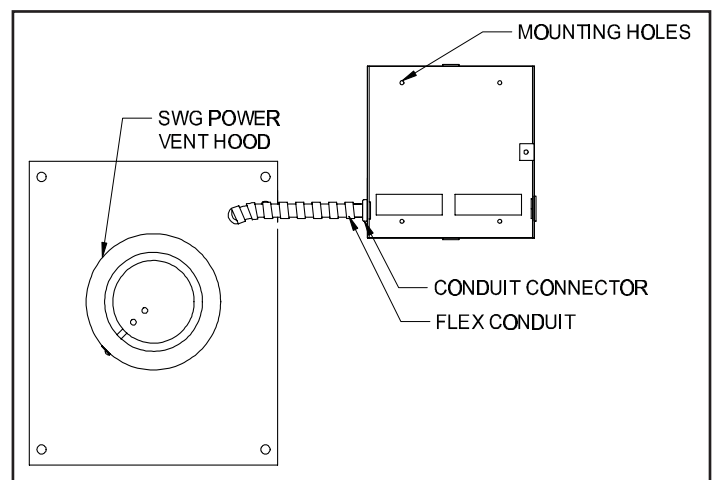

Figure 3
2. Fasten the flexible conduit from the SWG Venter into the conduit connector. Mount the CK-21 junction box or installer supplied junction box onto the wall or floor joist without straining the flexible conduit. Fasten the CK-21 junction box through the four dimpled locations on the base of the box. (See Figure 3)